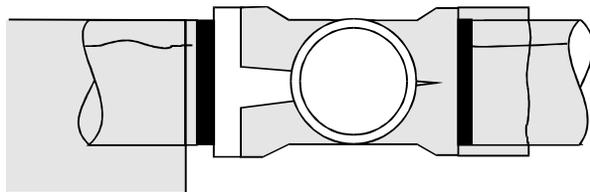

Figure 10
21. Cut one piece of sleeving part way along its length on the branch side, sufficient that the sleeve can be pulled over the tee body (Figure 10).